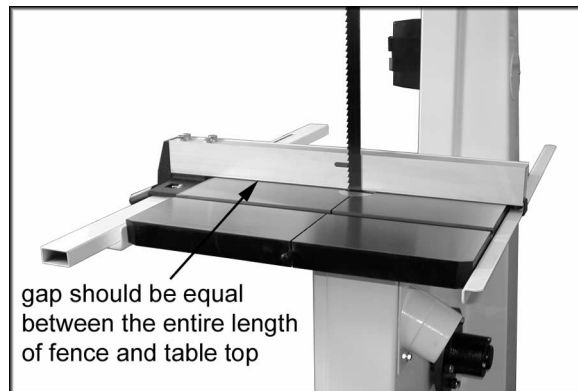

Figure 12
4. Check the clearance between the table and the fence. The gap should be the same at the front of the table as it is at the rear. If the gap width is different, adjust the foot at the rear of the fence until the gap width is the same, Figure 12.